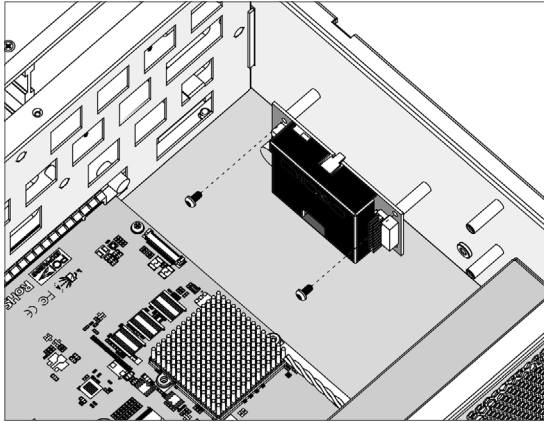

Figure B-3, Secure the Battery Module
2. After removing the cover, then secure the battery pack module (ARC-6120-BAT121-7, reference NO.1 in Figure B-1) on the right side within the enclosure, as shown in Figure B-3.